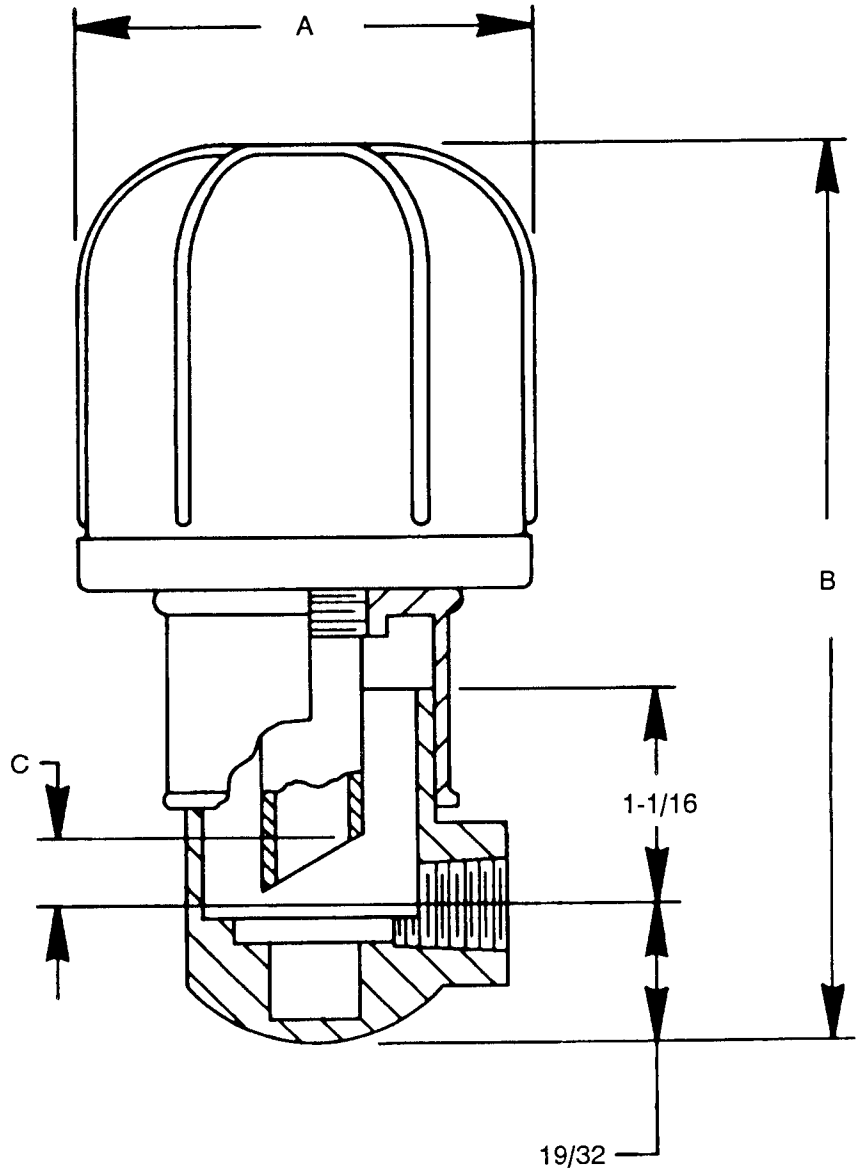

Figure 5. Trico Type E Oiler, Catalog Number 30054
- a. To add oil to bearing housing: Add oil through top port of bearing housing (99) until oil is sighted through view port (143). Continue to add oil through oiler (125) to bearing housing (99) until oiler (125) stabilizes (bubbling stops). Refer to figure 5 for illustration of oiler (125). Inspect oiler (125) on a daily basis to check oil level in bearing housing
- (99). For further details on lubricating the bearings, refer to section V, paragraph A.
- b. To drain old oil from bearing housing: Remove pipe plugs (426) at bottom of inboard bearing cover (35) and bearing housing (99).
To add oil to bearing housing: Add oil through top port of bearing housing (99) until oil is sighted through view port (143). Continue to add oil through oiler (125) to bearing housing (99) until oiler (125) stabilizes (bubbling stops). Refer to figure 5 for illustration of oiler (125). Inspect oiler (125) on daily basis to check oil level in bearing housing (99).